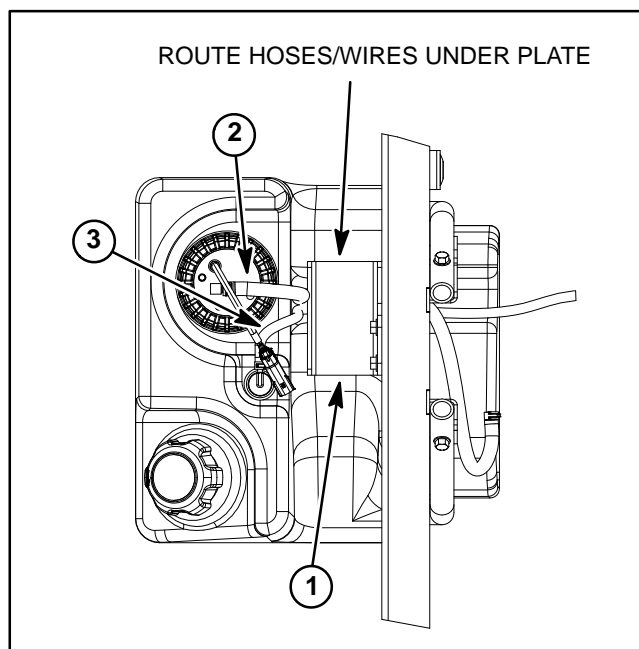

Figure 9
5. Note routing of fuel hoses for installation purposes (Fig. 9). Disconnect fuel hoses from fuel pump assembly and rollover valve. Plug fuel hoses to prevent leakage or contaminant entry.
6. Remove washer head screws (item 8) and retainer plate (item 7) that secure fuel tank to vehicle.
2. Remove plugs placed in fuel hoses during fuel tank removal. Connect fuel hoses to fuel pump assembly and rollover valve (Fig. 9). Secure fuel hoses with hose clamps.
4. Position retainer plate (item 7) to tank and frame. Make sure that fuel hoses are correctly placed under retainer. While pressing down on retainer plate to best retain tank, install and tighten washer head screws (item 8) to secure fuel tank to vehicle.